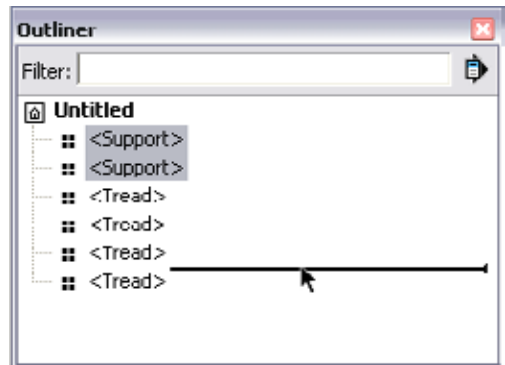

Figure 7-99
- Remember which tread was highlighted in the Outliner. Then, within the Outliner, select both support components (press the Ctrl/Option key when you want to select multiple items) and drag them just below the tread that was highlighted (Figure 7-99).